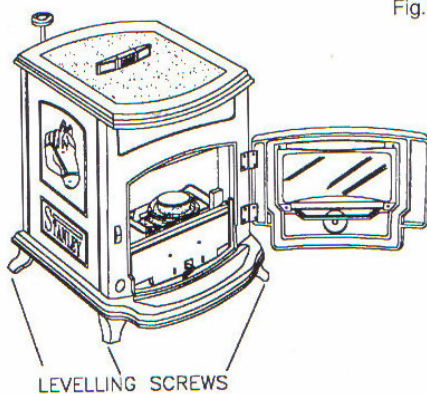

Fig.23
7. Level the stove in all directions using the levelling screws on the stove legs.(See Fig.23)